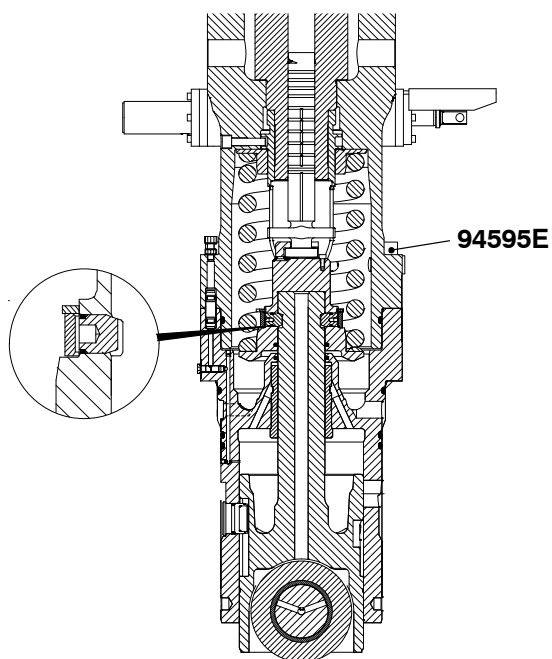

Fig. 1
- 2) Disassemble the fuel pump until the condition is as shown in Fig. 1.